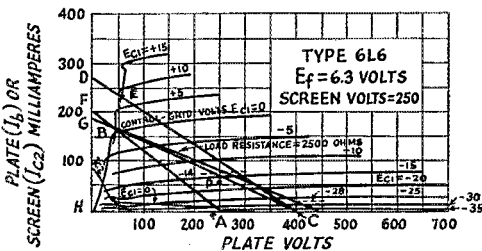
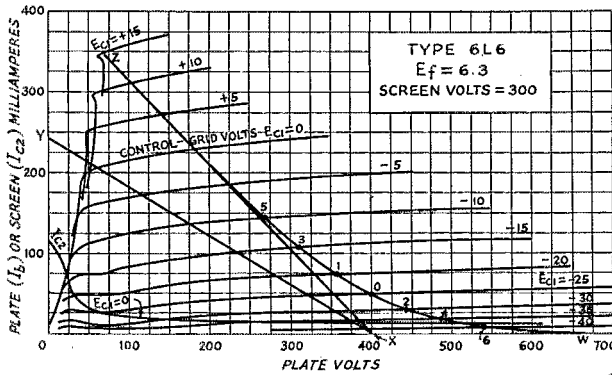
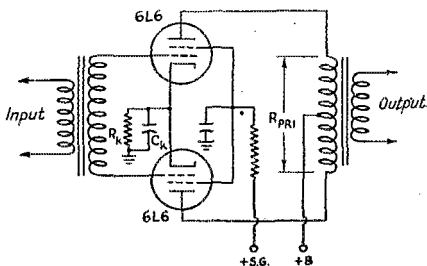

Fig. 1—Optimum load depends upon tube operating conditions. Load line AB is for Class-A, line BC for Class-AB₁, while line CD is for Class-AB₂ operation.
Fig. 2 — Load line XY is for Class-AB₂ operation, while line XZ is for Class-AB₁ use.
Fig. 3.—Push-pull circuit discussed in text.
1) Construction of load line. The construction of the push-pull load line is a simple operation, since we know that one point must lie on the plate-voltage coordinate at the applied-voltage point. This is point A in Fig. 1. Since maximum output is obtained when the grid signal swings to zero on the peak of its positive alternation, a second point is located on the zero-bias line. To obtain maximum output without distortion, this second point is located just ahead of the "knee" in the zero-bias line (point B). A line drawn between A and B represents the push-pull load line. As explained in the preceding installment, this load line represents the load presented to one tube when the other tube is not conducting. The actual load line for each tube is curved as shown in the last installment and curve ZW in Fig. 2. The plate-to-plate load is four times this value. Therefore, in Fig. 3,
3) The d.c. component of plate current per tube is located at the intersection of -16 -volt E_c curve and the $+250$ -volt plate-voltage ordinate, point P in Fig. 1. Point P represents a plate current of 60 ma. per tube or 120 ma. for both tubes.
1) In constructing the AB₁ or AB₂ load lines the same method is used in locating the two points through which the load line is drawn. In general, when maximum output is desired the plate and screen potentials are set at the maximum permissible values. Thus, in Fig. 2 the plate voltage is 400 and the screen 300. In constructing load lines for pentodes it is important that use be made of the set of characteristic curves which correspond to the correct screen voltage. Fig. 2 is for a screen voltage of 300 while Fig. 1 is for a screen voltage of 250. The screen potential of 250 volts is used for less output and less grid drive. The plate voltage may or may not be reduced, depending upon output desired. In the interest of obtaining less distortion and less critical operating conditions it is best to choose a class of operation which will do the job satisfactorily with a little power to spare, and not to extend operation beyond this point.
In Fig. 2 one point on both the AB₁ load line (XY) and the AB₂ load line (XZ) is at point X at the intersection of the zero plate-current coordinate and the supply-voltage point. For the AB₁ curve the other point is just before the "knee" on the zero-bias line; for the AB₂ line, just before the "knee" on the most-positive bias line. If less output is desired, the AB₁ line, BC, is drawn on Fig. 1 in the same manner. In the case of less output with AB₂ operation, the load line, CE, is drawn on Fig. 1. Point E on this load line is approximately on the 8-volt bias line because with the lowered screen potential the effect of the positive grid on the electron stream is more noticeable and it is not advisable to permit the grid to swing too far positive.
2) The slope of the AB₁ and AB₂ load lines in Fig. 2 are respectively $\frac{400}{0.24} = 1667$ ohms and $\frac{300}{0.315} = 952$ ohms, or the plate-to-plate impedance across the primary of the output transformer is 6670 ohms and 3800 ohms, respectively.
As mentioned previously, although the composite push-pull load line suffices to make all practical calculations for a push-pull circuit, the actual load line of each individual tube is a curved line. During the time when one tube is cut off, the load is $\frac{R_{pri}}{4}$ for the conducting tube. When both tubes are drawing the same current the load for each tube is an impedance of $\frac{R_{pri}}{2}$ because of the reflections between primary windings. This load gradually increases as the plate current falls toward zero until it reaches infinity at cut-off. The load line ZW in Fig. 2 will substantiate this fact. The method for drawing the curved load line was given in the previous installment; however a very simple method of accomplishing the same result is outlined below.